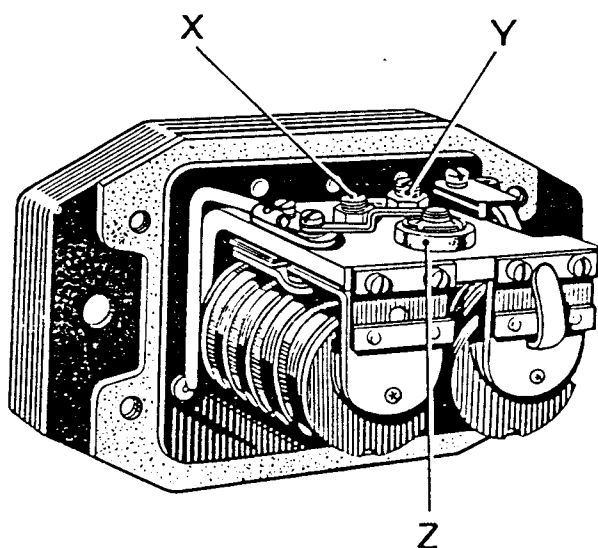

FIG. 23
3. Carbon type as shown in Fig. 23, item Z.
If cut-out has become out of adjustment, and operates at a voltage outside these limits, it must be reset. To make the adjustment slacken the locknut and turn the adjusting screw (Y), Fig. 23, a fraction of a turn in a clockwise direction to raise the operating voltage or in an anti-clockwise direction to lower the voltage. Tighten the locknut after making the adjustment.